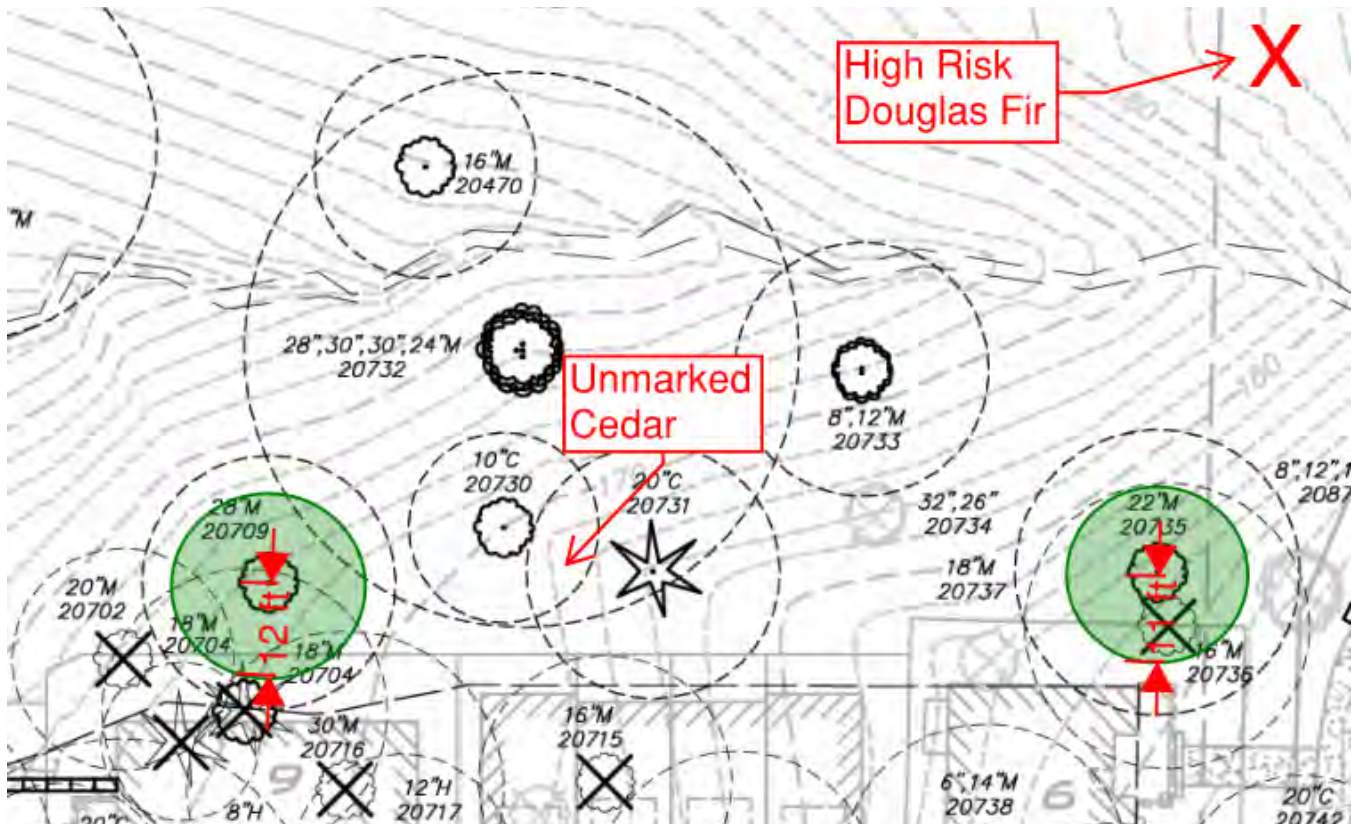

Figure 1 – Tree #20709 and 20736 LOD's in green, location of the unmarked cedar and location of the high risk Douglas fir tree
From an urban forestry perspective, the most desirable trees surveyed are located in the area where the majority of the construction will occur. Figure 1 shows the best trees based on health and structural condition. The darkest green circles indicate conifer species in 'excellent' condition while the lighter shade of this color shows conifer species in 'good' condition. Chartreuse green indicates deciduous trees in 'excellent' condition. In addition, this area is also relatively free of invasive species and has a healthy native understory shrub layer consisting of sword fern, salmonberry, Indian plum, trailing blackberry, Oregon grape, red huckleberry, thimbleberry as well as others. Although there are many trees in the eastern portion of the property with good health and structural condition, a good majority of them will be removed with the development as they do not qualify as 'high retention value' trees per Kirkland Zoning Code (KZC) 95.10(13). Figure 2 shows the retention value of all surveyed trees.
In contrast, the eastern portion of the property is comprised of smaller deciduous species with only a few conifers in 'good-excellent' condition (Figure 1). This area is also heavily inundated with invasive species such as Himalayan blackberry, English ivy, Japanese knotweed, red canary grass, and a very large climbing grape vine. There are some native understory shrub species
- There is a large (~24" dbh) Douglas fir on the site that is actively failing and could be considered a high risk if people are entering the site. The approximate location is marked as a large red X in Figure 1.
2. Both tree #20735 and #20709 are big leaf maples proposed to be retained. Based on the plans, fill will be added within the LOD's of both trees. Big leaf maples are intolerant of fill. The site plans could be altered to avoid this. See Figure 1.
4. Remove the leaning Douglas fir prior to work occurring on the site. See Figure 1.